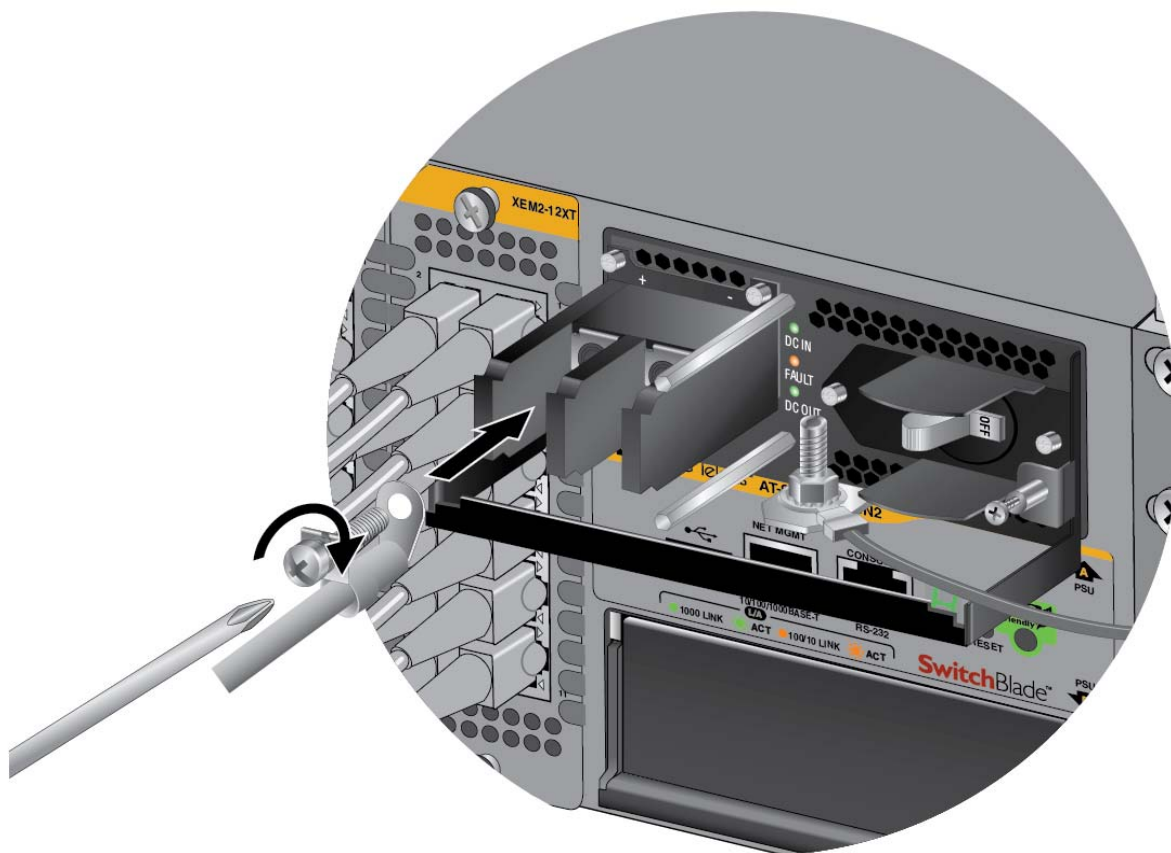

Figure 74. Connecting the Positive (+) Power Wire with a Right Angle Terminal
6. With a #3 Phillips-head screwdriver, connect the positive (+) power lead wire to the positive terminal on the power supply, with one of the terminal screws removed in the previous step. The positive terminal is on the left. Refer to Figure 74 on page 104.